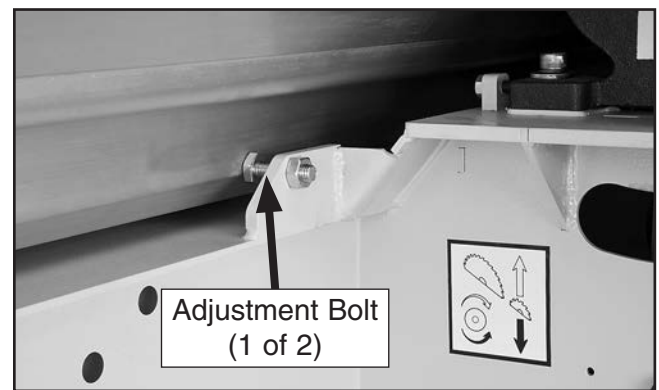

Figure 159. Sliding table parallelism adjustment bolt (1 of 2).
7. Adjust adjustment bolts underneath each end of sliding table (see **Figure 159**) to make sliding table parallel with main blade.